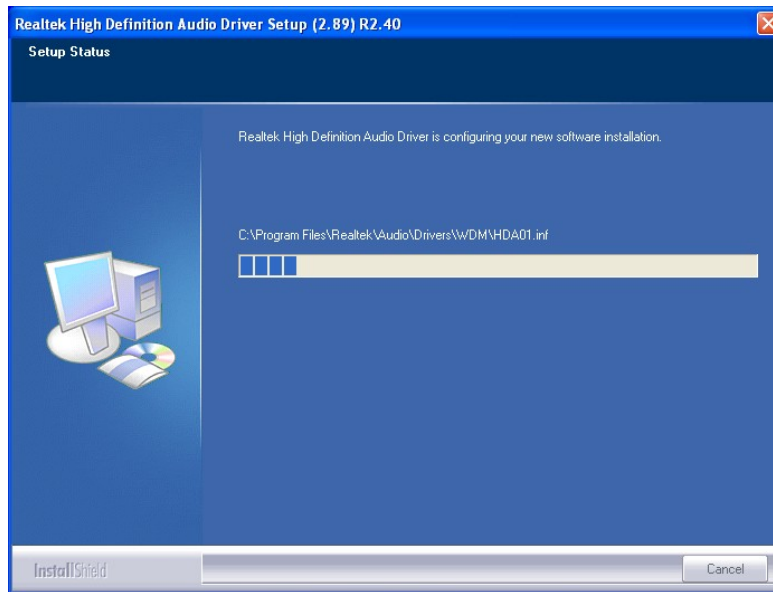

Figure 5-19: Audio Driver Installation
Step 6: The audio driver installation begins. See **Figure 5-19**.